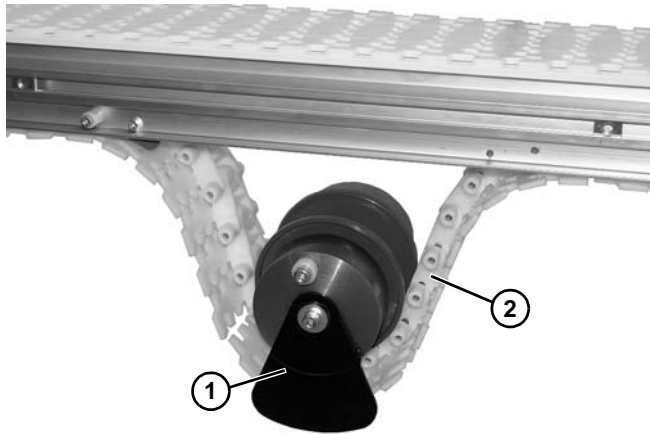

Figure 140
11. Install idler pulley assembly (**Figure 140, item 1**) onto conveyor in belt loop (**Figure 140, item 2**).